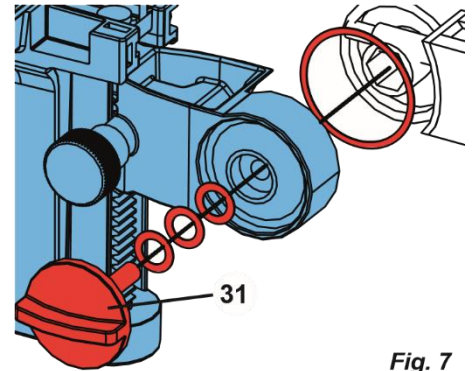

Fig. 7
Four washers are needed for mounting the head (see Fig. 7). Three small washers (golden/black/golden) have already been threaded onto the fastening screw (31) in the correct sequence. The large washer is attached to the head with an adhesive strip with a red end.
- ⇒ Loosen the fastening screw (31) on the support arm.